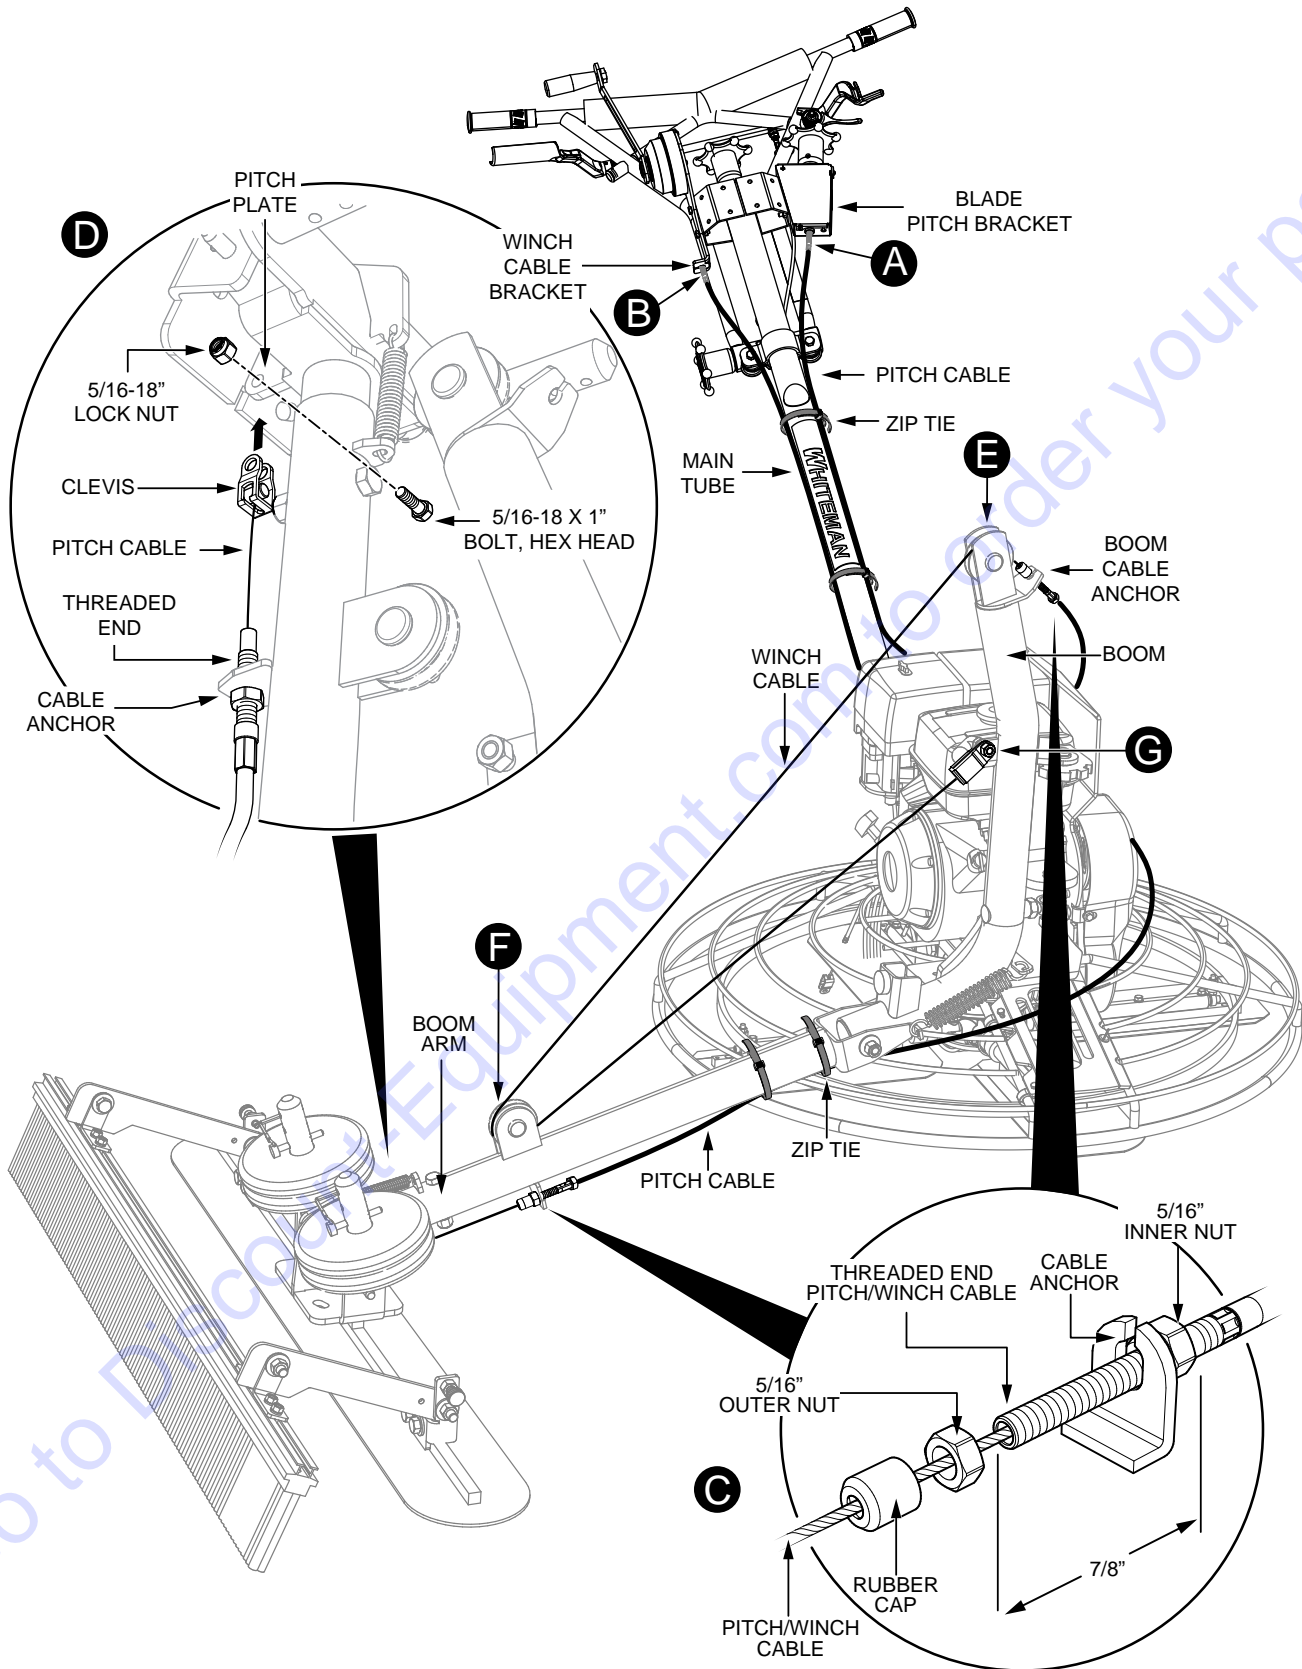

Figure 28. Fresno Pitch/Winch Cable Installation
1. Slide the 1/4-20 X 1-1/4" screw into the brush channel as shown in Figure 28.
2. Once correctly positioned, place the brush weights (3) onto the 1/4-20 X 1-1/4" screw as shown in Figure 28.